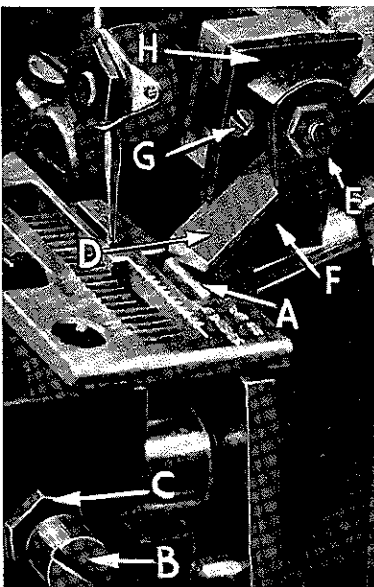

Fig. 12
Replace upper knife assembly. Clamp upper knife (D, Fig. 12) in position, setting nut (E) to hold clamp (F) in its most clockwise position against upper knife. At
Replace lower knife holder assembly. Lower knife (A, Fig. 12) should be set with cutting edge flush with throat plate surface. Adjustments are made with hexagonal head screw which holds lower knife. Lower knife
the bottom of its stroke, front cutting edge of upper knife should extend not less than $1/64$ inch below cutting edge of lower knife. The chain guard (not shown in Fig. 12) should be set down against the upper knife and slightly back from the cutting edge.